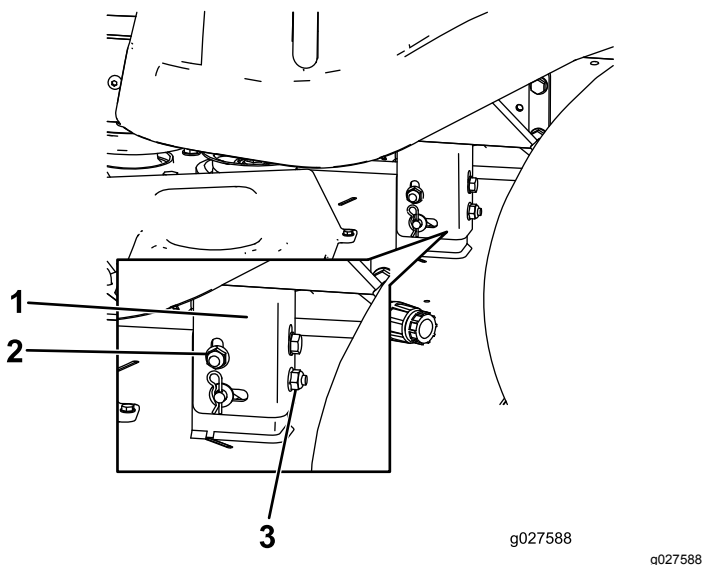

Figure 53
8. Raise or lower the left side of the mower deck by rotating the rear locking nut (Figure 53).
Note: Rotate the rear locking nut clockwise to raise the mower deck; rotate the rear locking nut counter-clockwise to lower the mower deck (Figure 53).